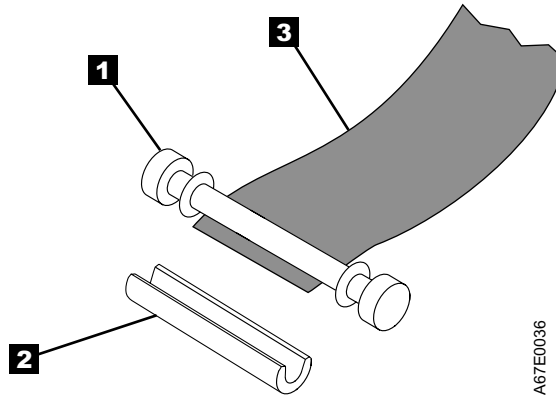

Figure 20. Removing the C-clip from the leader pin. Use your fingers to push the C-clip from the leader pin.
5. On the leader pin ( **1** in Figure 20), locate the open side of the C-clip **2** . The C-clip is a small black part that will secure the tape **3** to the pin.